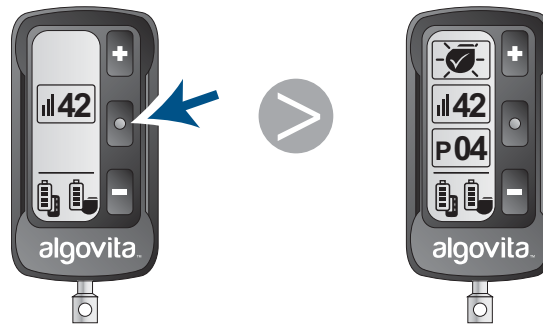

Figure 43. Confirming new setting
4. Press  (Figure 43) or wait 5 seconds to confirm the new setting. When the setting is confirmed,  stops blinking.